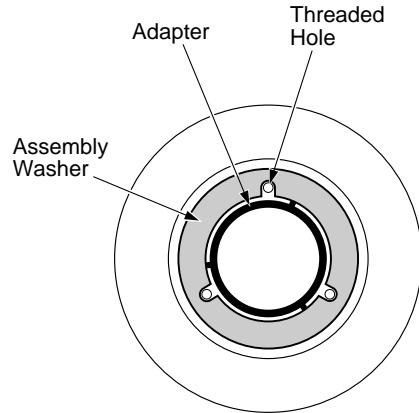

Figure 4c - Positioning Assembly Washer Slots over Threaded Holes
3. Position the slots in the assembly washer over the threaded holes in the adapter as shown in Figure 4c.